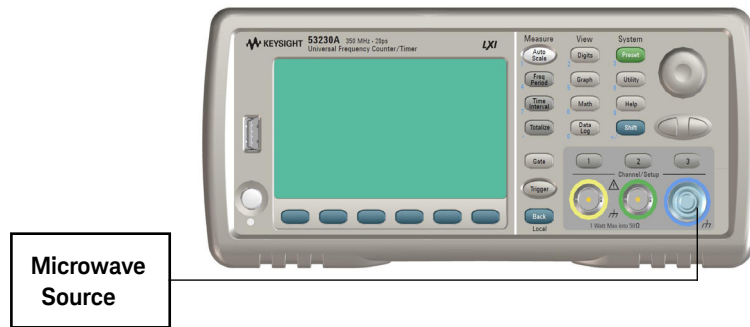

Figure 6-2 Microwave source connection to channel 3
- 5 Connect the microwave frequency source to Channel 3 on the counter front panel. (See Figure 6-2.)